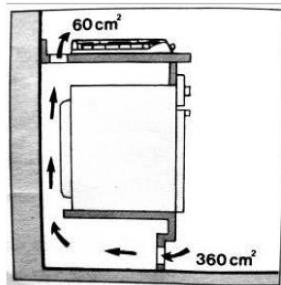
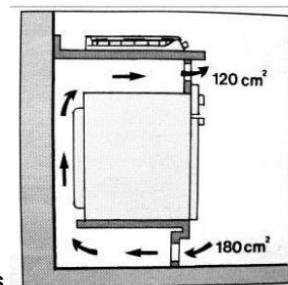

Fig. 5
Fig. 6
- h) In the case of installing a built-in oven under the gas hob, it is recommended to improve the ventilation around the oven, to avoid excessive heating, place a grille for the air intake from the bottom of the oven and another grille on the top. top of the hob (Fig. 5) or in the front-top part of the oven (Fig. 6).